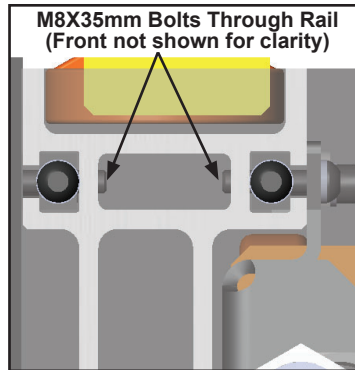

Figure 5
- Step 4. Tighten all bolts and ensure bolts are engaged into rail. See Figure 5.